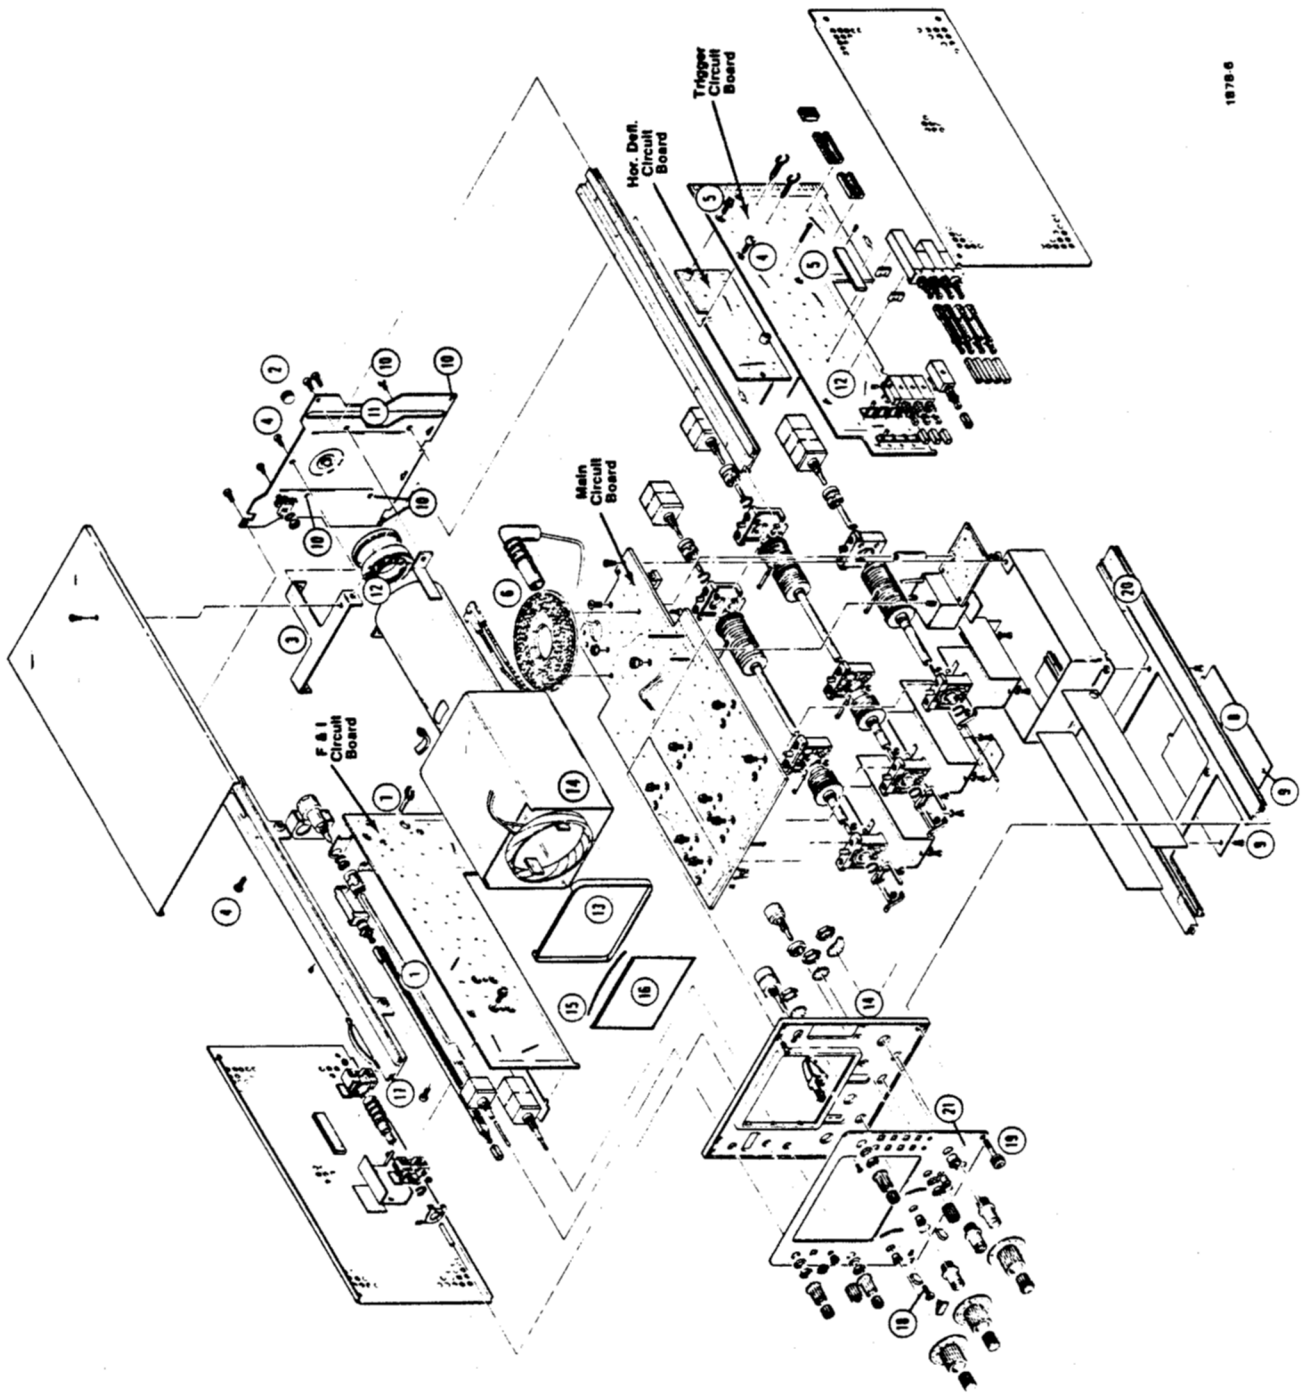

Fig. 5-1. Replacing the cathode-ray tube, and circuit board removal.
The following procedure outlines the removal and replacement of the cathode-ray tube. Refer to Fig. 5-1.
1. Remove the instrument vented electrical shields (side covers), the top cover, and remove crt filter (16) with spring (15) from front of crt.
2. Disconnect the FOCUS extension shaft (1) from the focus potentiometer.
3. Loosen black thumb screw (2). Remove the "T" bracket (3) which is held with three screws (4).
4. Remove the two screws (5) holding the hor defl circuit board. (It's not necessary to remove board, just 8-pin ribbon connector and two horizontal deflection pin wires.) Lift the board slightly away from the SC 502 and disconnect the 8-pin ribbon wire connector and the two horizontal crt deflection pin leads.
5. Disconnect the coaxial cable 10-pin connector from the back of the F & I circuit board along with the trace rotation coil 2-pin connector. Also, disconnect the coaxial cable 4-pin connector and coaxial cable 2-pin connector from the back of the Trigger Circuit board. Don't remove (6) from (7). (6) would then be in the way of crt shield. Momentarily touch the crt end of the anode connector to chassis ground to discharge any voltage.
6. Remove the high-voltage shield (8), which is held by the two screws (9). Remove the 3-pin ribbon wire connector from Q970, which is mounted on the rear panel. Remove the eight screws (10) and remove the rear panel (11) being careful to not lose two board insulators. (See Fig. 5-1.)
7. Disconnect the crt socket (12) and the two crt vertical deflection pin leads, then lift out the crt shield with the crt inside.